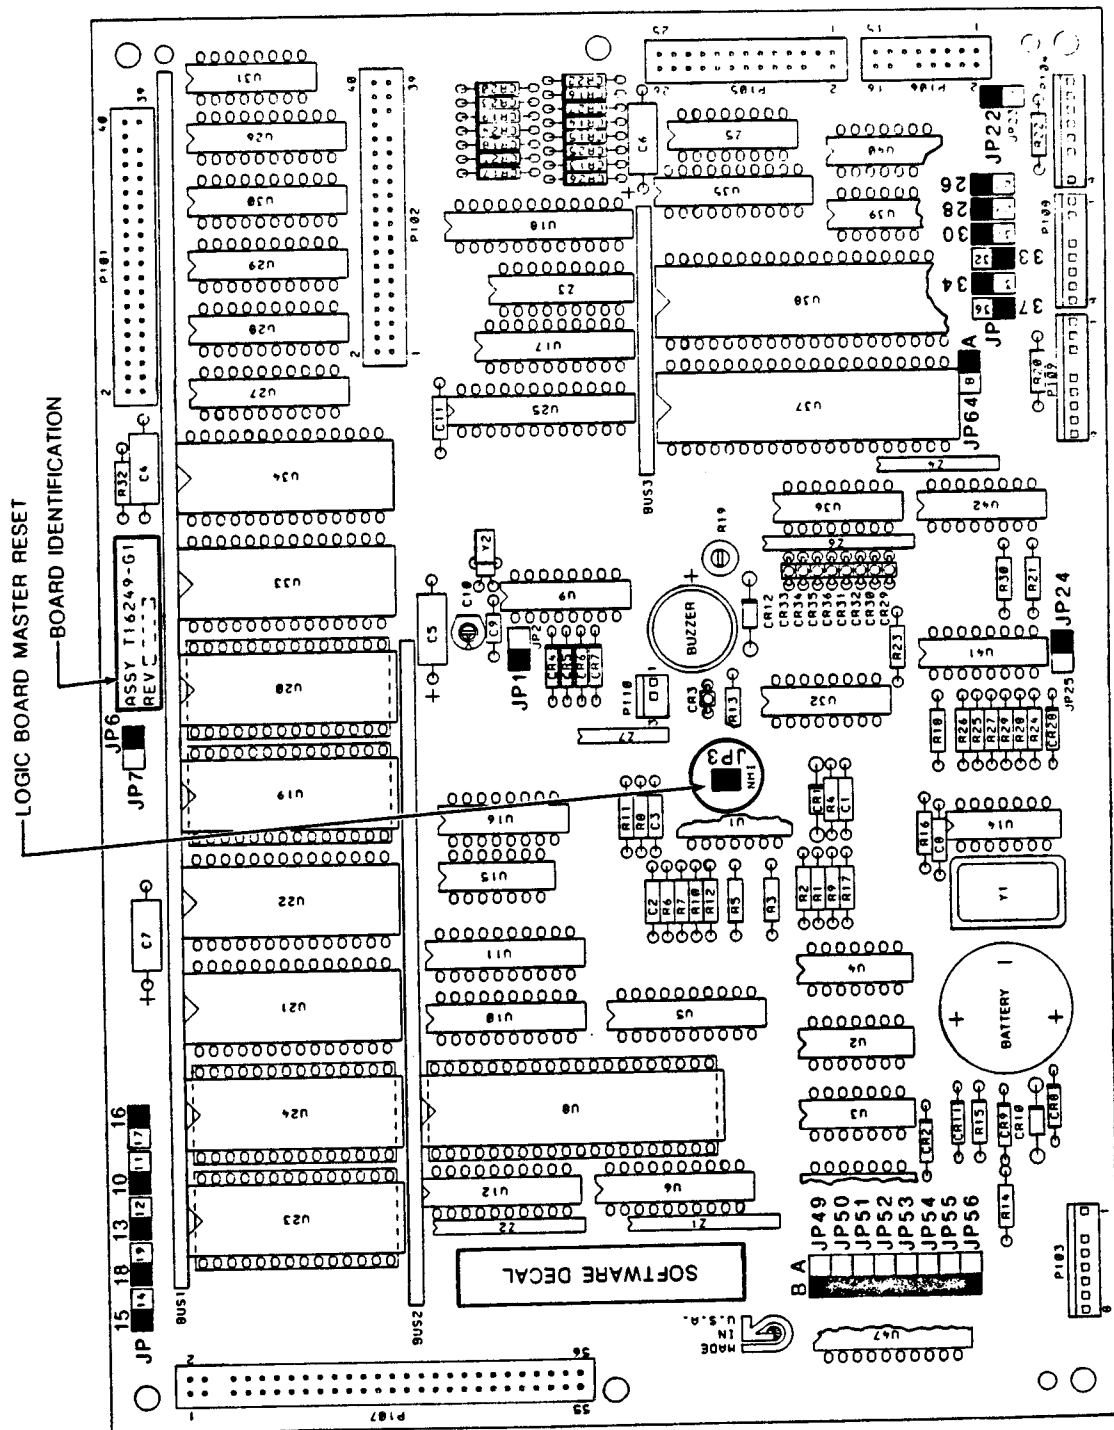

FIGURE 3: JUMPER SETTINGS FOR PWB ASSEMBLY T16249
- If Processor PWB Assembly is T16249, compare all Jumper Settings with the list on Page 7 and Figure 3 on Page 6. Reset (per instructions below) any jumpers that are not in agreement.